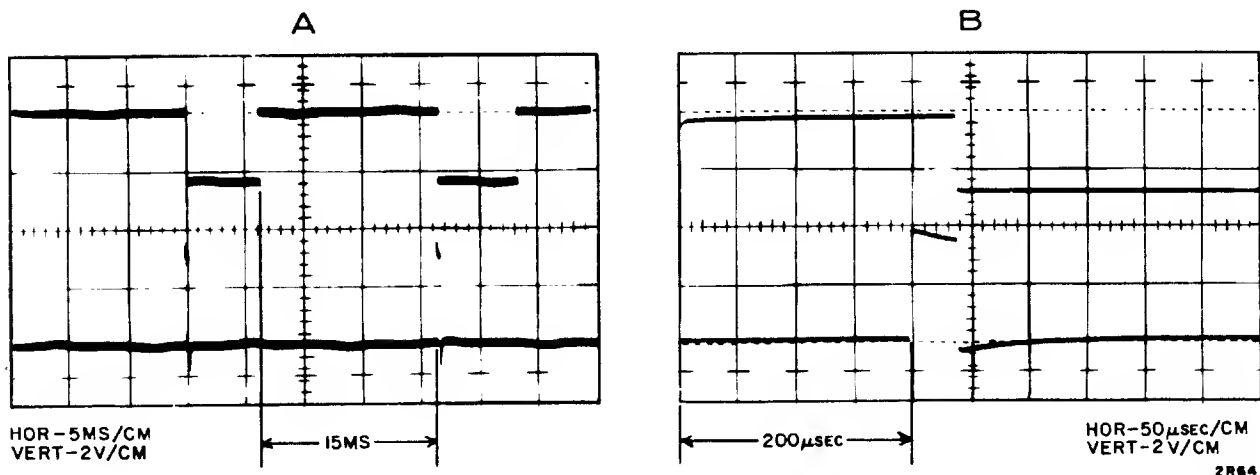

Figure 6-22. On Cylinder Delay Timing
- d. Make oscilloscope settings and trace comparisons according to Figure 6-22, part A. Adjust the potentiometer shaft on Y203 until its output pulse is delayed by 15 ms with respect to the "0" output of I220.
- g. Make oscilloscope settings and trace comparisons according to Figure 6-22, part B. Adjust the potentiometer shaft on Y221 until its output pulse is delayed by 200  $\mu$ sec with respect to the "0" output of Y203.